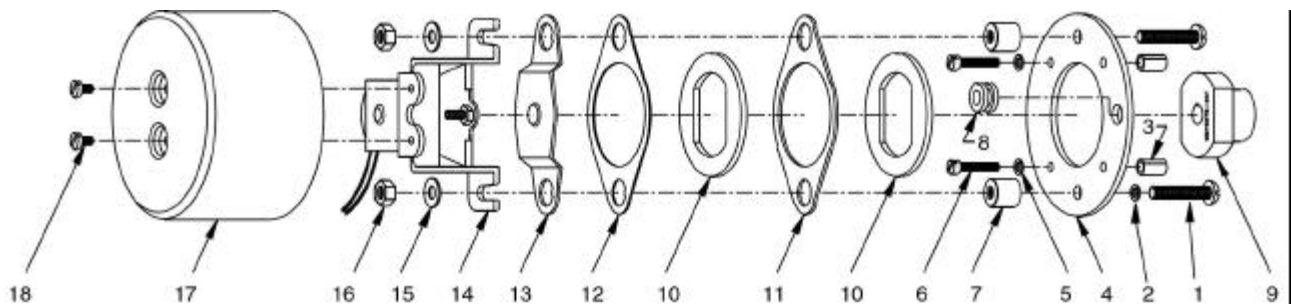

Figure 5. Brake Assembly Components
1. Disconnect solenoid (25) from circuit and remove cover (17).
2. Remove locknuts (16), washers (15), operator assembly (14), pressure plate (13), stationary disc (12), friction disc (10), stationary disc (11), and friction disc (10).
3. Replace worn discs and assemble in reverse order. Discs must slide freely on hub (9).
NOTE: Stationary disc (11) is .060 in. thick, and must be in the location shown in Fig. 5. Stationary disc (12) is .030 in. thick, and must be located as shown.
4. Before installing operator assembly (14) turn adjusting screw (23) counterclockwise 4 or 5 turns to allow operator to be bolted down without interference.